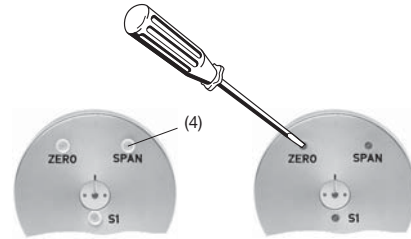

Fig. 13 Adjustments «ZERO», «SPAN» and «S1».
Remove the ZERO/SPAN sealing plug (4) (Fig. 13, left). Place the measured device at its zero position, i.e. the position at which the KINAX 3W2 should produce 0 mA (3- or 4-wire connection) resp. 4 mA (2-wire connection) at its output.
Then adjust the "ZERO" potentiometer (Fig. 13, right) using a watchmaker's screwdriver (2.3 mm diam.) so that the desired output current flows.
A switch is provided on angular transmitters with a measuring range > 150 ° for reversing the direction of rotation. It is marked S1 and can be operated through the opening in the rear part of the transmitter (Fig. 13).